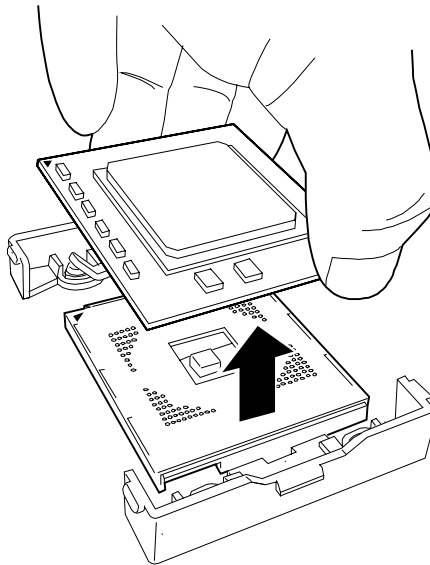

Figure 4-21. Removing the Processor
8. Remove the processor from the socket. See Figure 4-21.